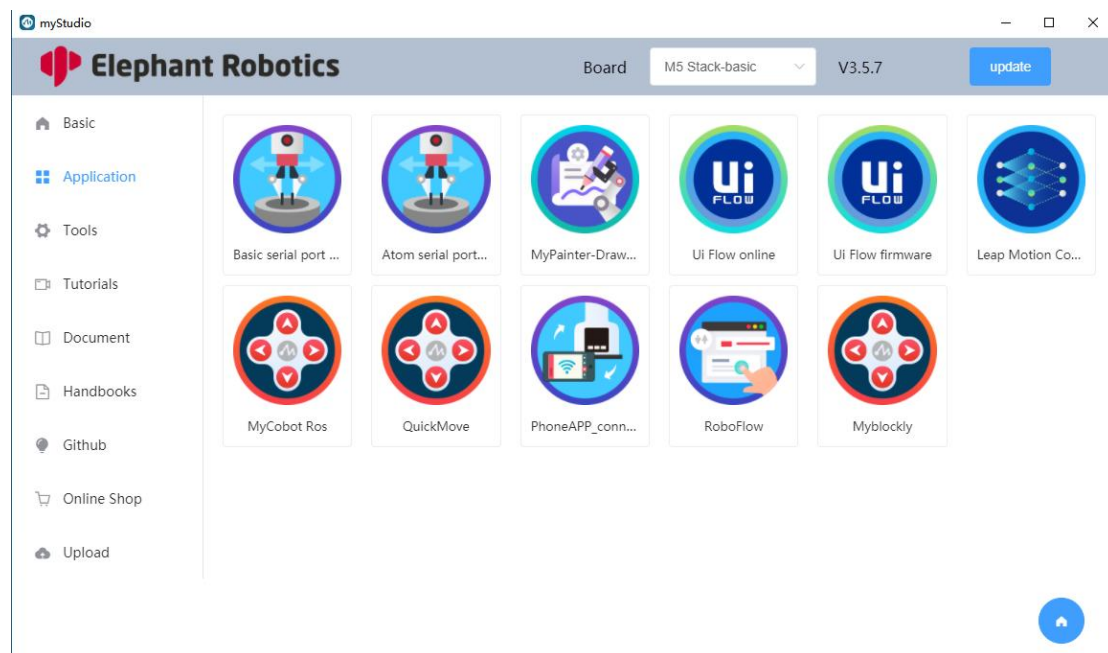

Figure 3.4 Main page
2、 After logging in, you will enter the main page of the system, as shown in Figure 3.4.